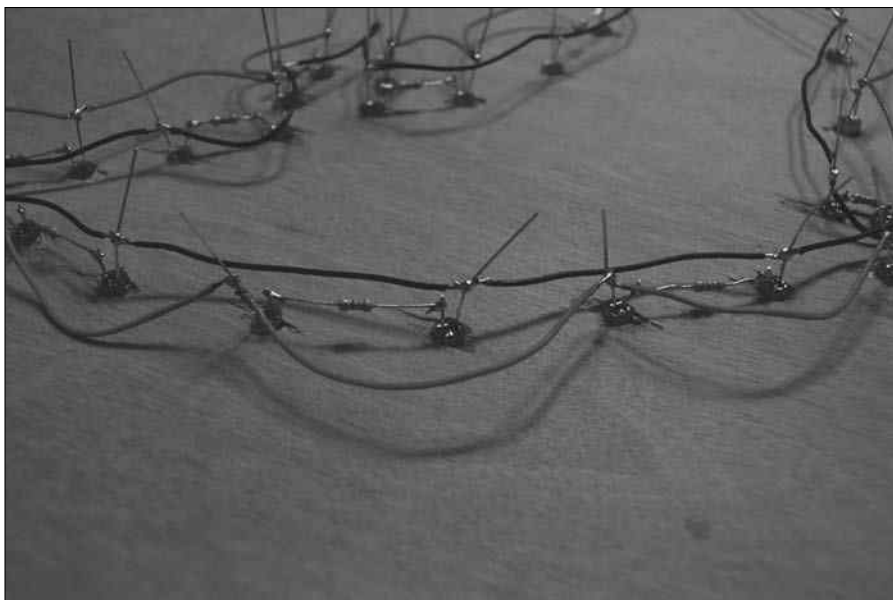

Figure 10-21:
12. Solder the red wires to the leads, as shown in Figure 10-21.